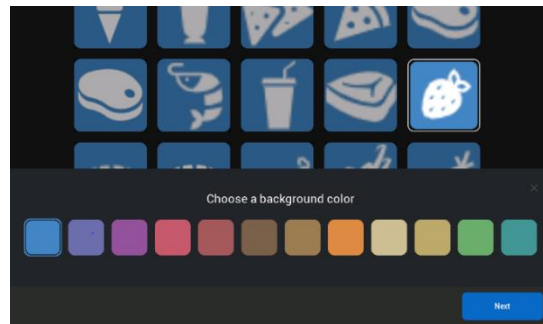

Figure 46 - Icon Background Color
- Click on the desired icon and the screen will transition to **Figure 46**